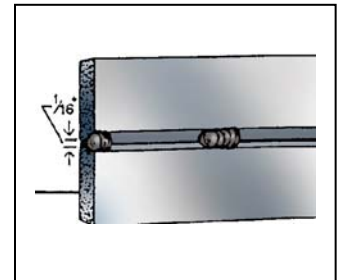

Figure 1
9. Secure the pieces in the horizontal position. If beveling was necessary, the beveled or more beveled piece should be on top. Refer to Figure 1.